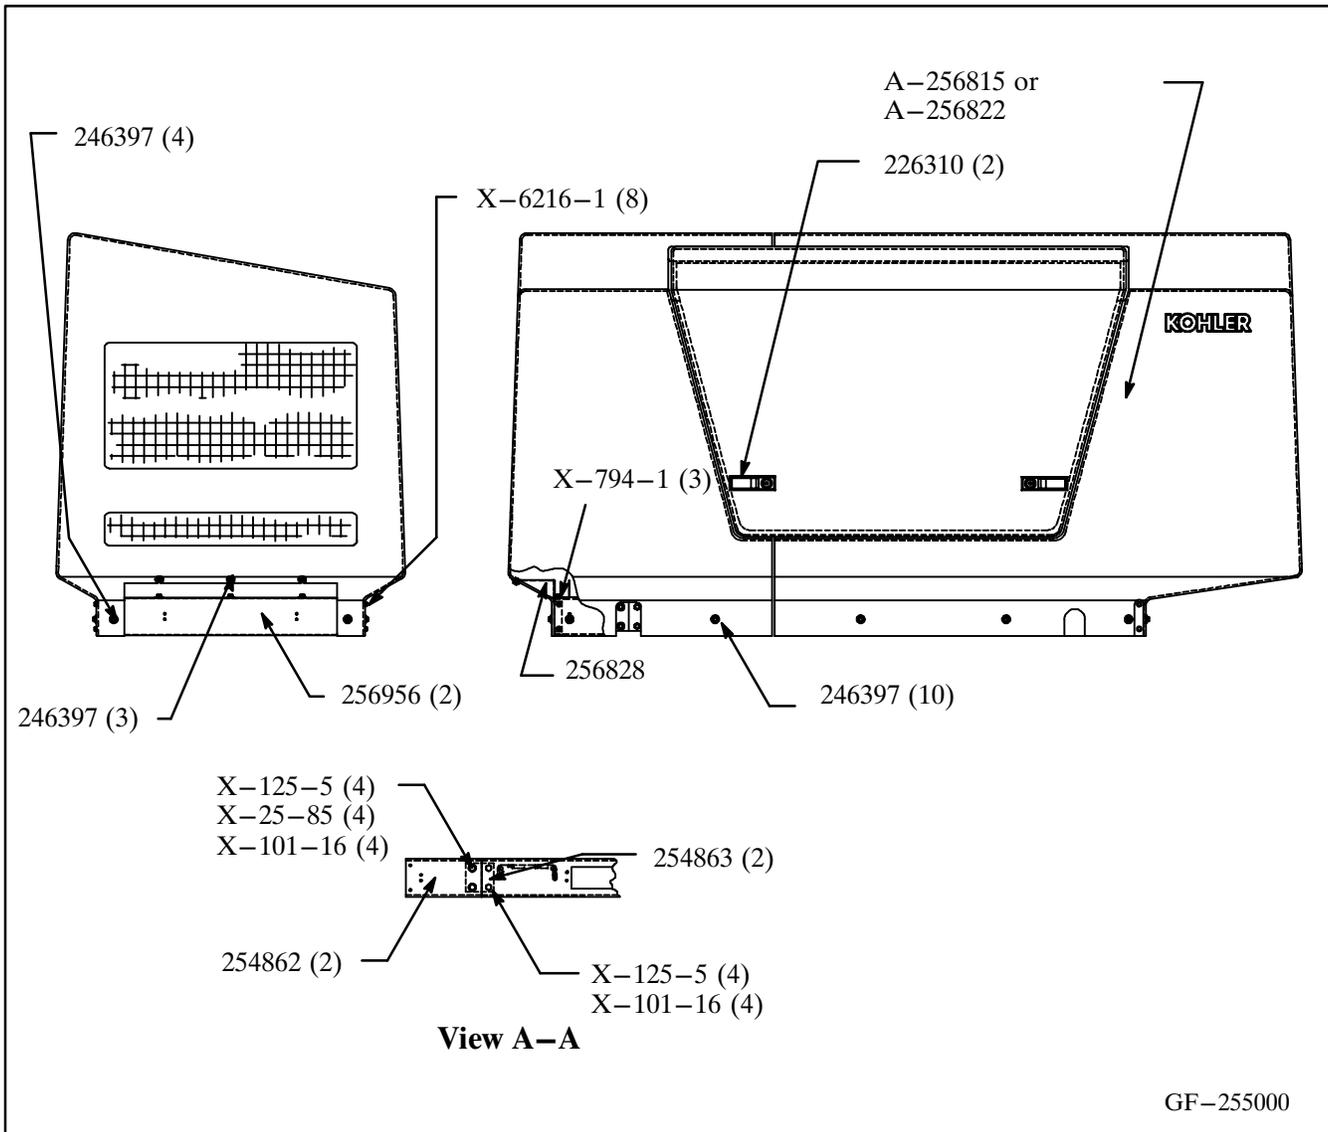

Figure 1. Sound Shield Assembly Drawing
The sound shield kit provides weather protection and quiet operation for generator sets installed outdoors. In addition, the sound shield panel can be locked to prevent unauthorized personnel from tampering with the generator set. When installing the sound shield kit, follow the general guidelines and observe the safety precautions listed below. In instances where different part numbers are mentioned, refer to Figure 1 to determine which part number applies to your application.
2. Refer to the assembly drawing in Figure 1 to identify kit components and their relative position.
3. On single phase units (Kits #256826 & 256827) install rail extensions (254862) to skid. Attach by using bracket extensions (254863) and hardware supplied. See Figure 1, view A–A.
5. Position bracket (256828) between skids – directly above skid end cover (end cover which is located opposite from Kohler logo decal). Secure using three drill hex screws (X–794–1) into holes provided. See Figure 1 for location.